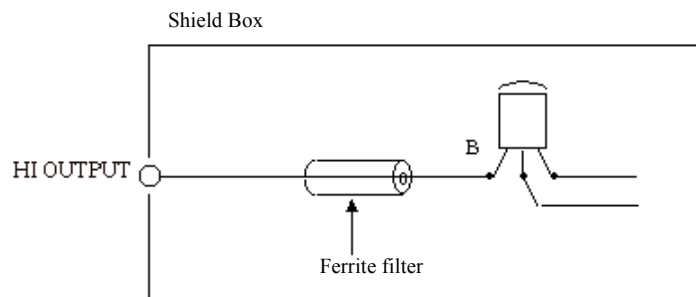

Figure 5-4 Preventing Device Oscillation
- Attach a ferrite filter near the device as in Figure 5-4.